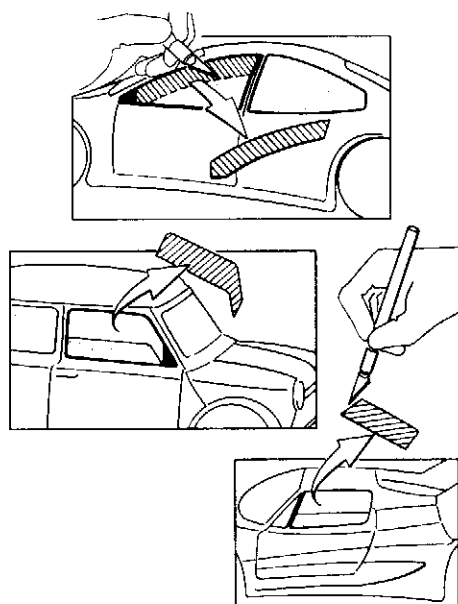

Fig. 24
- To help cooling, proceed as shown in fig. 24.